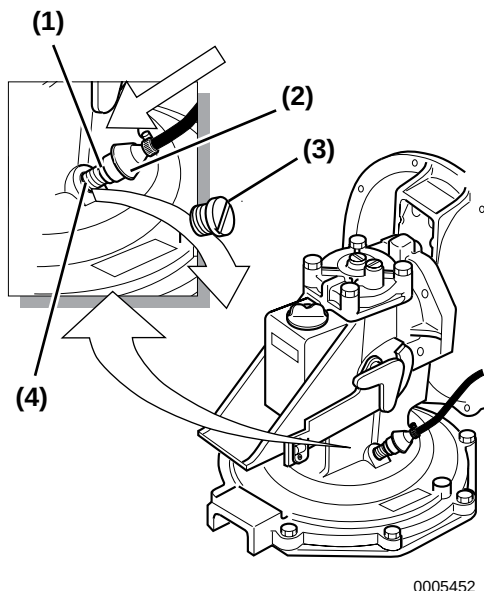

Figure 4
3. Attach a stiff rubber hose (inner diameter 14 to 16 mm [0.5 to 0.625 in.]) with hose clamps to the adapter joint at the oil changing position (**Figure 4, (2)**). The hose must be long enough to reach the bucket or pump. If a Yanmar original rubber hose is to be used, the part number is 196440-92970.